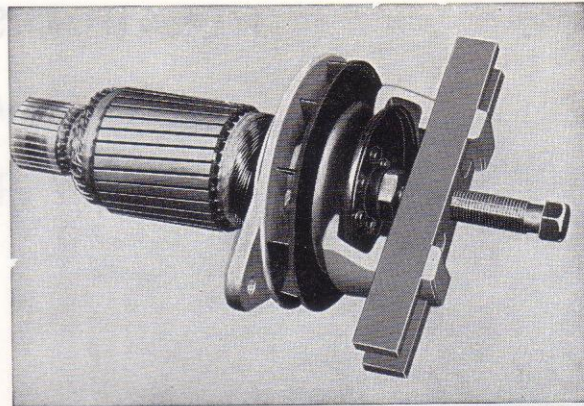

Fig. 7. Removing the pulley
6. Place the armature in a vice but do not tighten too hard (use copper jaws). Unscrew the nuts for the belt pulley and pull this off. A suitable tool for this is shown in Fig. 7.